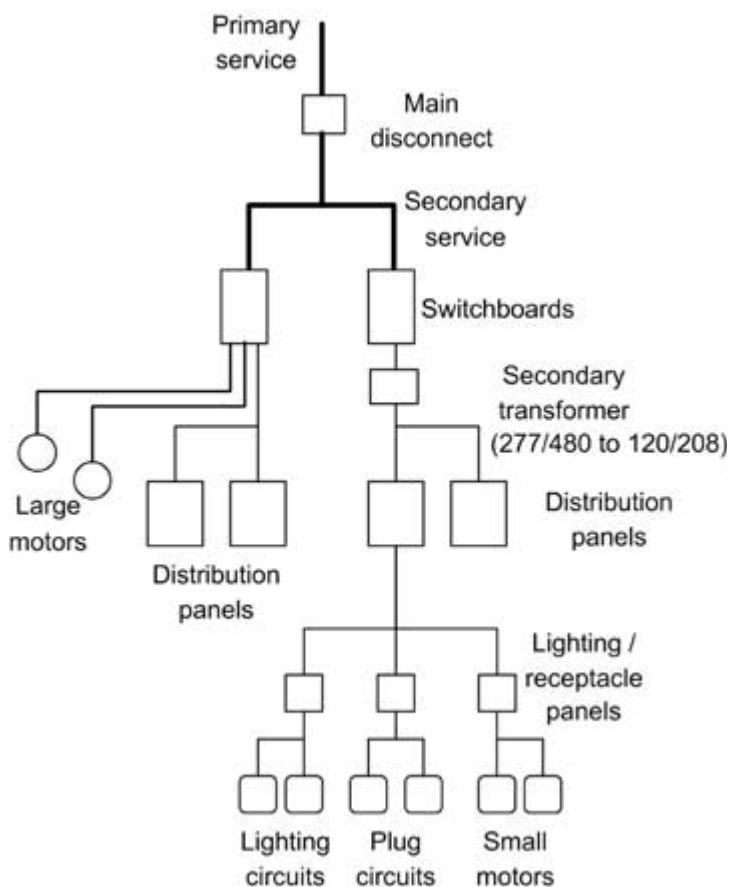

FIGURE 9.9 Typical commercial building electrical distribution system. (Adapted from Stein and Reynolds)
The majority of large HVAC equipment is powered by alternating current (AC). The alternating part of this term is appropriate: the voltage and current in AC circuits flips back and forth 60 times per second. The primary service enters the building at 120/240 VAC if single phase, or 120/208 VAC, 277/480 VAC, and higher if three phase. The first number is the voltage between any single phase and ground and the second number is the voltage between any two phases. In commercial buildings, electricity enters a building through the primary service feeder (as shown in Figure 9.9) and then passes through a series of transformers, switchboards, and panels before arriving at the load. The HVAC equipment is usually powered directly from the switchboards. If a switchboard is devoted to just HVAC equipment, it is called a *motor control center*.